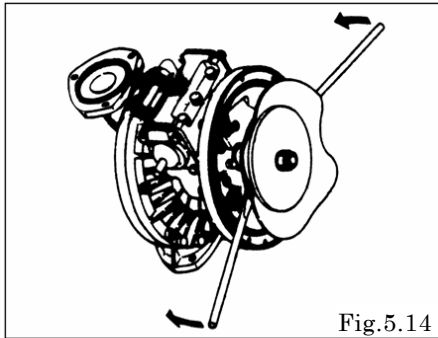

Fig.5.14
- Grip the inside center disk using crowbars and draw it to the opposite side, then turn the diaphragm over. (exclude B□H, B□S, B□H/T type) [Fig.5.14, 5.15]